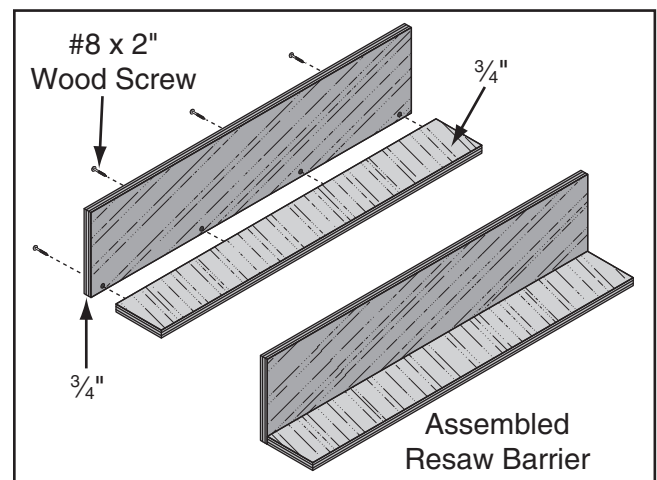

Figure 68. Resaw barrier.
3. Glue the end of the 3" board, then clamp the boards at a 90° angle with the larger board in the vertical position, as shown in **Figure 68**, fasten together with the wood screws.